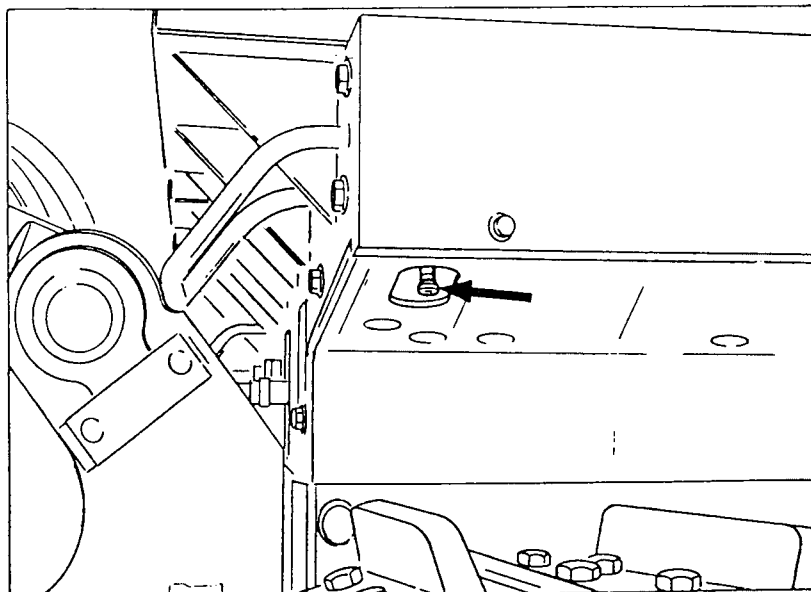

Fig. 5.28. Hydraulic Reservoir Drain Plug
4. Drain the reservoir into a suitable container by removing the filler plug and the drain plug (Fig. 5.28).